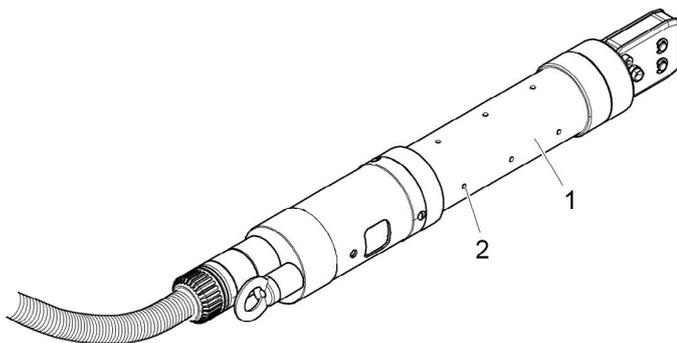

Fig. 12 Vent holes
- ▶ During operation, the vent holes (Fig. 12/2) on the pincer body (Fig. 12/1) must not be blocked.